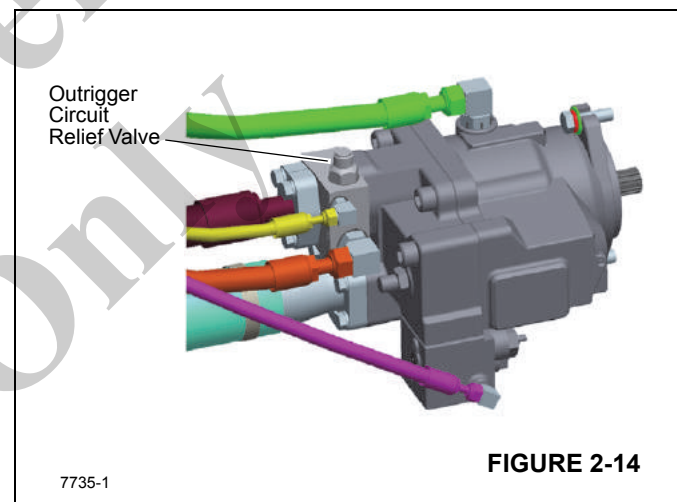

FIGURE 2-14
1. The outrigger circuit has a single relief valve in the pump manifold with a setting of 207 bar (3000 PSI) as shown in (Figure 2-14).